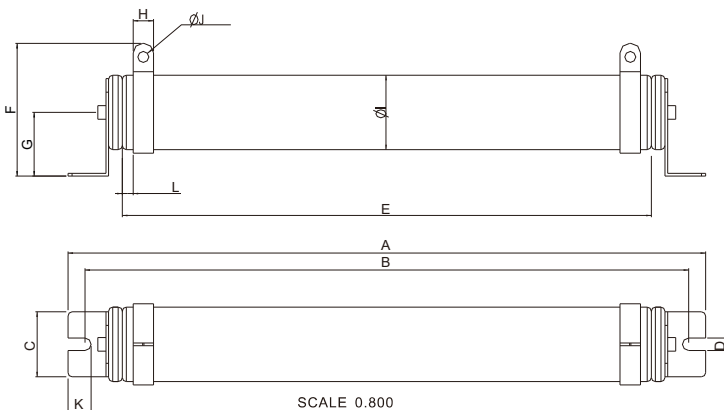

Figure 7-1
- (1) Wire wound resistors: For 1000 W and above, see the following appearance of wire wound resistor (Figure7-1) and its model and specification comparison table (Table 7-2) for details.